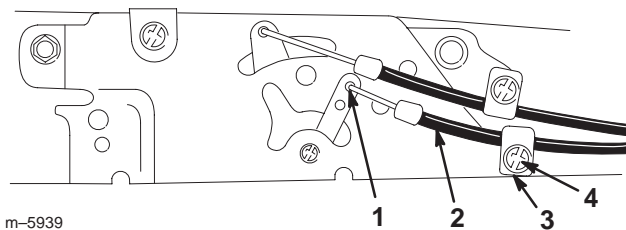

Figure 5
3. Attach the inner wire of the throttle cable to the top hole in the throttle control lever as shown in Figure 5.
- Loosen the cable clamp and insert the cable behind it (Fig. 5).